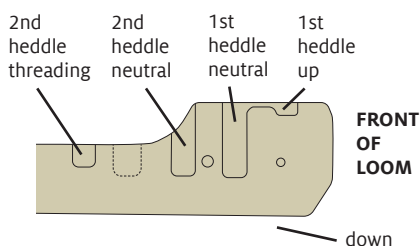

FIGURE 18: HEDDLE SLOTS
The first shed is made by resting the heddle on the heddle block in the 1st heddle up position (Figure 18). This is called the up shed.
2. Remove the rigid heddle from the heddle block and lay it flat toward the back of the loom, with its bottom edge in the 2nd heddle neutral slot (the third slot from the front of the loom; see Figure 18).
3. Place a heddle in the 1st heddle neutral slot (see Figure 18). This is Heddle 1. Position the loom to work from the front. With a pencil or scrap yarn, mark a starting slot that centers the warp in the heddle.
6. Insert Heddle 2 in the threading slot at the back (see Figure 18 on page 10). Count the slots from the edge of Heddle 1 to the first selvedge thread going through a hole. Now count the same number of slots in Heddle 2 and mark this slot.